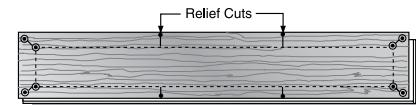

Fig. 8
- Mark damaged board 1-1/2" (3.81 cm) from ends and sides. Drill 3/16" (4.76 mm) holes in corners and at relief cuts (Fig. 8).